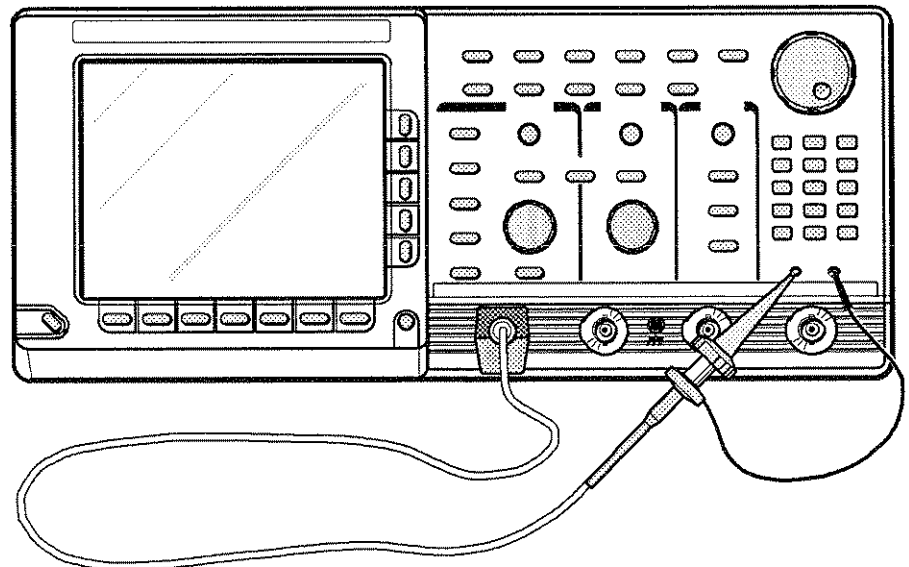

Figure 1-1: Connecting a Probe for the Examples
- Step 1:** Remove all probes and signal inputs from the input BNC connectors along the lower right of the front panel. Then, use one of the probes supplied with the digitizing oscilloscope to connect from the **CH 1** connector to the **PROBE COMPENSATION** connectors. Figure 1-1 shows the proper connection of this probe.